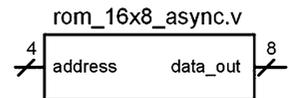

Fig. 10.2
- 10.2.1 Design a Verilog model for the 16×8 , asynchronous, read-only memory system shown in Fig. 10.2. The system should contain the information provided in the memory map. Create a test bench to simulate your model by reading from each of the 16 unique addresses and observing data_out to verify it contains the information in the memory map.